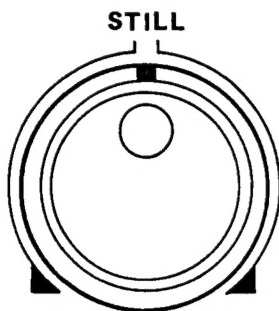

Fig. 1 Search/jog knobs position
1. Position the search/jog knob as indicated in Fig. 1.